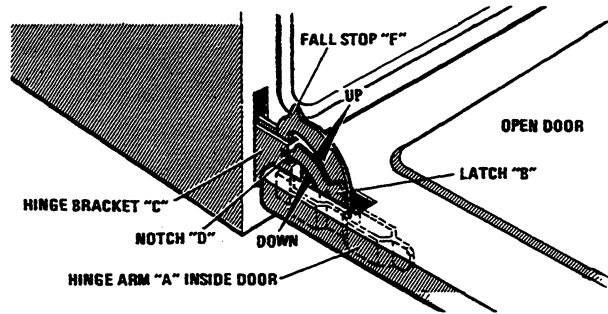

FIG. 1
- Refer to Fig.1 and identify parts of the oven door hinges.